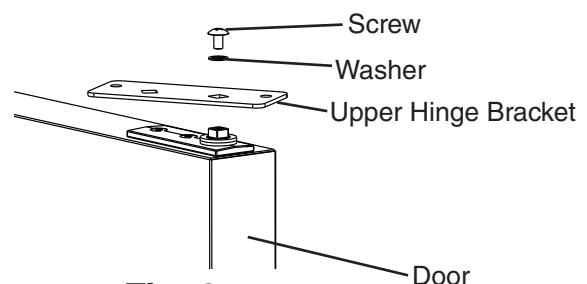

**Fig. 4**
- 3) Close the door. **WARNING! Keep away from upper hinge bracket. Upper hinge bracket kicks out when door is closed.** See Fig. 4. Remove the outer screw from the upper hinge bracket.